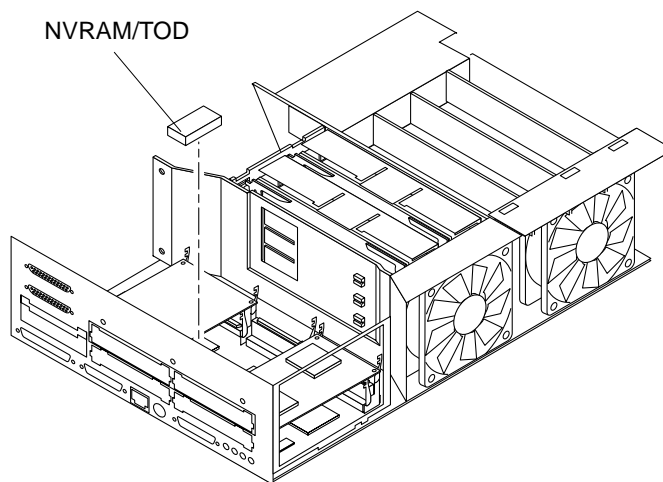

FIGURE 10-3 NVRAM/TOD Location
4. **Locate the NVRAM/TOD and carrier on the motherboard (FIGURE 10-3).**
(FIGURE 10-3).